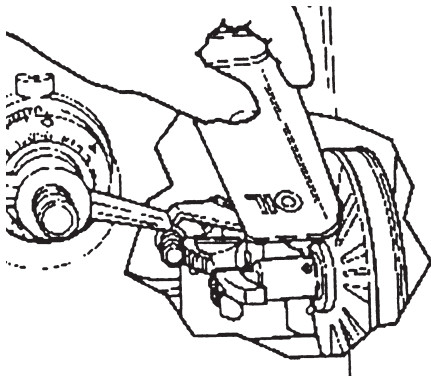

Figure 113
- Oil the Upper Control Sheave first. While looking through the Access Hole opening, turn the Main Spindle by hand (clockwise) until you locate the hole in the Sleeve. With the oil can tube inside the headstock apply 2-5 drops of oil in the hole, as seen in Figure 113.: